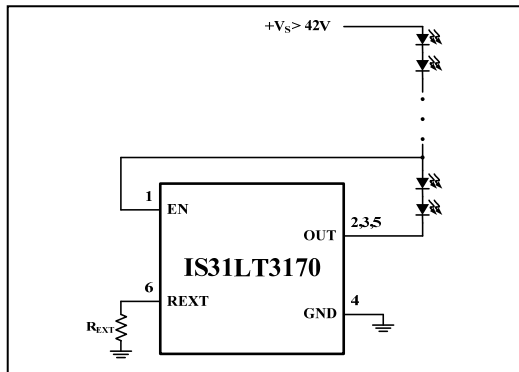

Figure 3 High Input Voltage Application Circuit
When driving a long string of LEDs whose total forward voltage drop exceeds the IS31LT3170 V_{BD_OUT} limit of 42V, it is possible to stack several LEDs (such as 2 LEDs) between the EN pin and the OUT pins 2,3, and 5 so the voltage on the EN pin is higher than 5V. The remaining string of LEDs can then be placed between power supply $+V_S$ and EN pin, (Figure 3). The number of LEDs required to stack at EN pin will depend on the LED's forward voltage drop (VF) and the $+V_S$ value.